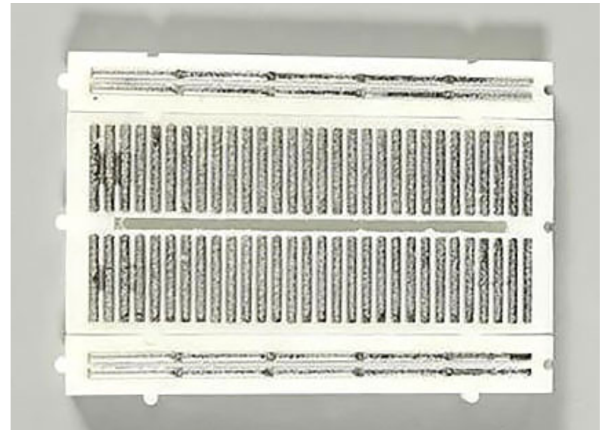

Figure 8: Internal connections of breadboard
1. Build the provided schematic as shown in Figure 8 on breadboard; consider switches SW1 and SW2 as slide switches.